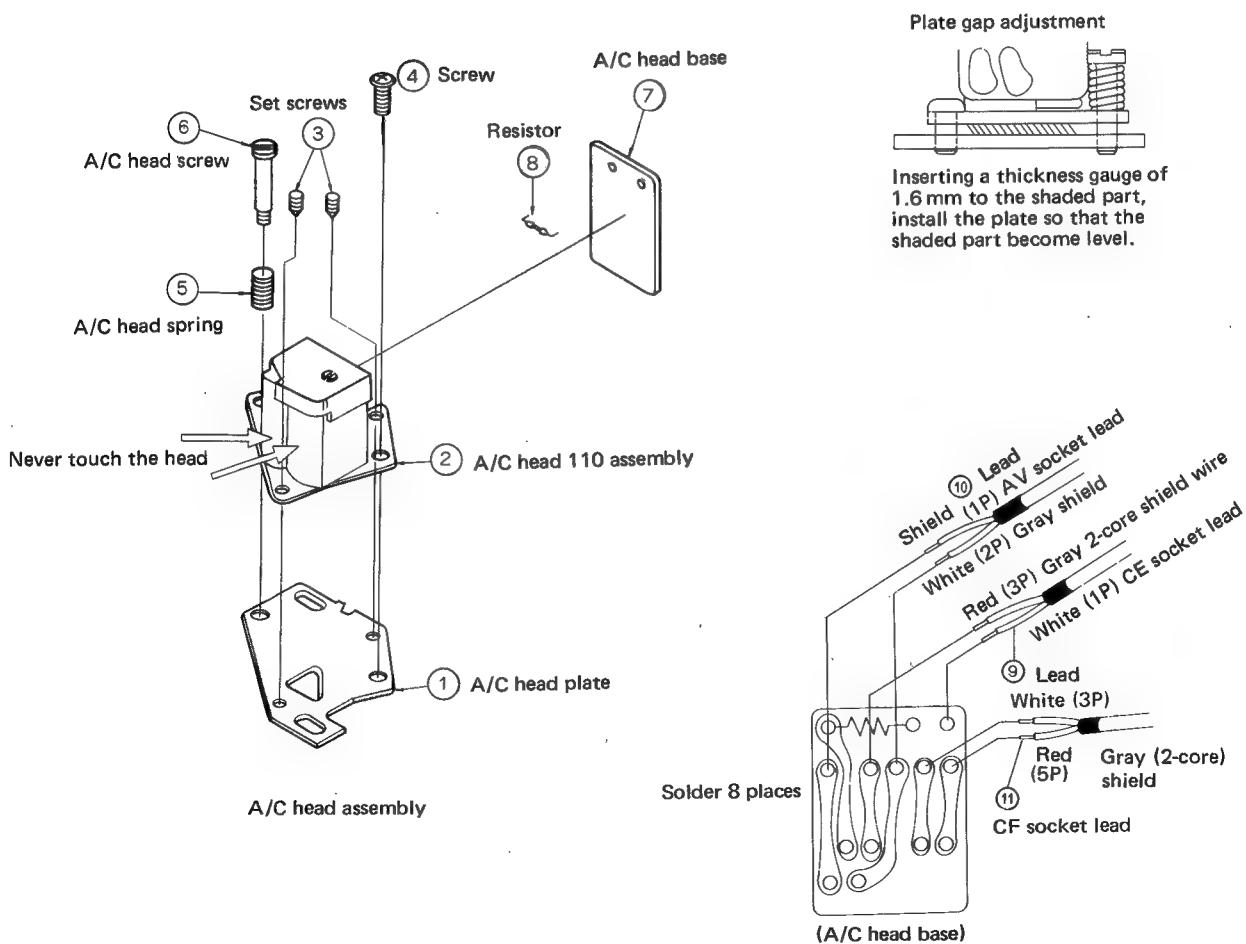

Figure 7-24.
- 1) After replacement, be sure to adjust tape travel. During replacement, never touch the head surface by hand (where indicated with  $G$  in Figure 7-24).